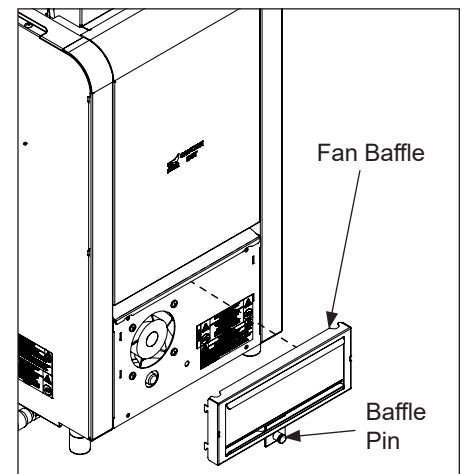

Figure 24. Pull baffle pin
2. Refer to Figure 24. Pull the pin on the lower part of the baffle and rotate upwards to remove.